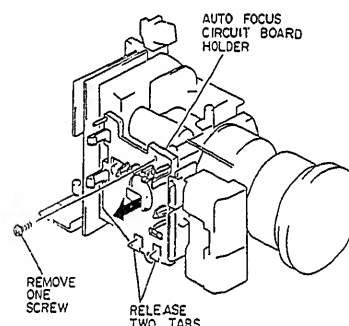

Fig. 2-102
2. Release two (2) tabs and remove the control circuit board holder. (See Fig. 2-102)
3. Remove one (1) screw and the auto focus circuit board holder in the direction of arrow.